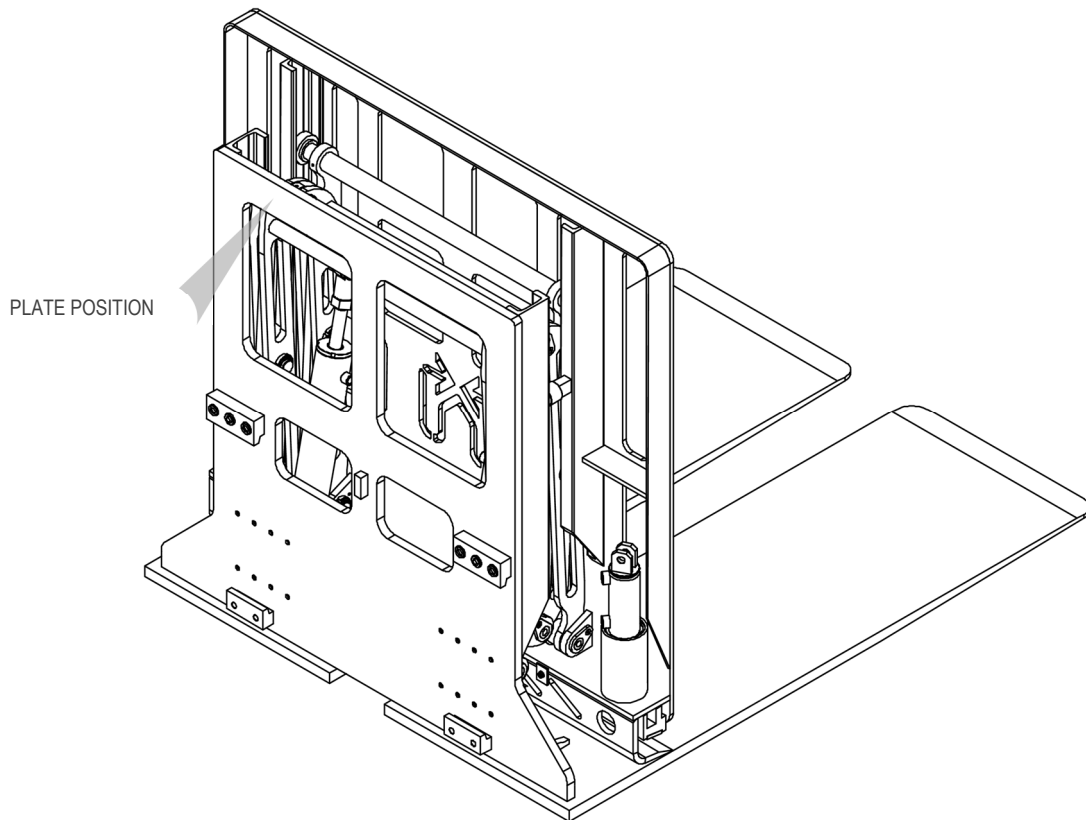

Figure 1
All the A.T.I.B. equipment - "PUSH-PULL WITH SHEET RETENTION TYPE 505 | FORK MOUNTED PUSH-PULL WITH SHEET RETENTION TYPE 505I | LOAD PUSH TYPE 490" is identified by means of an adhesive plate (see *Table 1*) positioned on the equipment (see *Figure 1*, the position of the plate may vary depending on the equipment). Always refer to the serial number.
5. For handling, use belts or chains appropriately sized with regard to the weight of the equipment indicated on the plate (see *Figure 1* and *Table 1* on page 7).
9. Connect the hydraulic circuit, making sure that the operating pressure of the lines is greater than or equal to that indicated on the identification plate (see *Figure 1* and *Table 1* on page 7).
8. Connect the hydraulic circuit, making sure that the operating pressure of the lines is greater than or equal to that indicated on the identification plate (see *Figure 1* and *Table 1* on page 7).